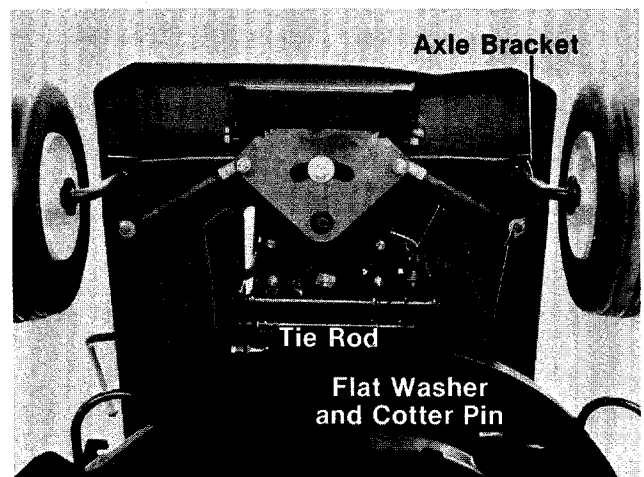

FIGURE 18.
The caster (forward slant of the king pin) and the camber (tilt of the wheels out at the top) require no adjustment. Automotive steering principles have been used to determine the caster and camber on the mower. The front wheels should toe-in 1/8 inch. See figure 18. To adjust, follow these steps:
1. Remove the cotter pin and flat washer which hold the tie rod to the axle bracket. See figure 18.